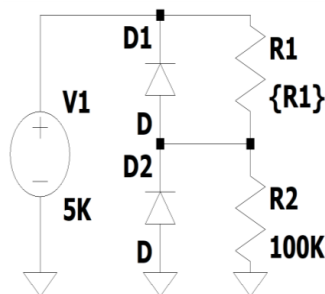

Figure 2.3 Series Revers Bias Diodes
1. Connect the Circuit as shown in Figure 2.3.